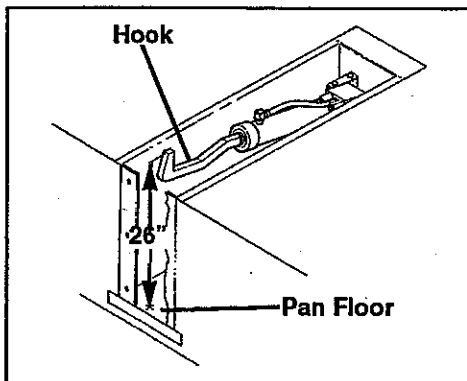

Fig. 13. Hook Storage Height
- G. Check the storage height of the hook. Push down on the hook cylinder several times to allow the hook to raise to a "natural" height. The storage height, when measured from the floor of the pan to the top of the hook, should be approximately 26". See Figure 13.